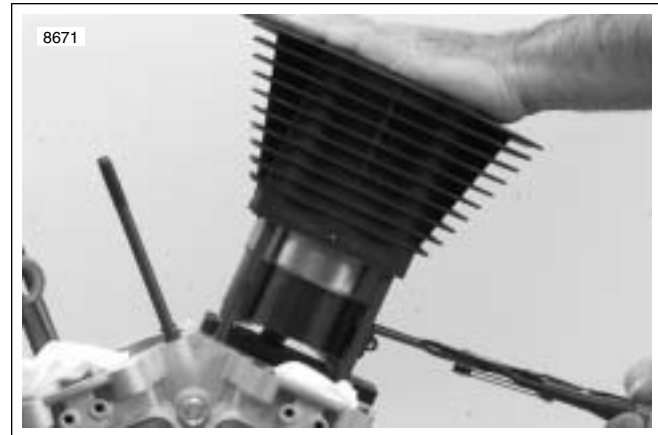

Figure 3-106. Compressing Piston Rings Using Piston Ring Compressor (Part No. HD-96333-51C)
9. See Figure 3-106. Compress the piston rings using PISTON RING COMPRESSOR (Part No. HD-96333-51C).